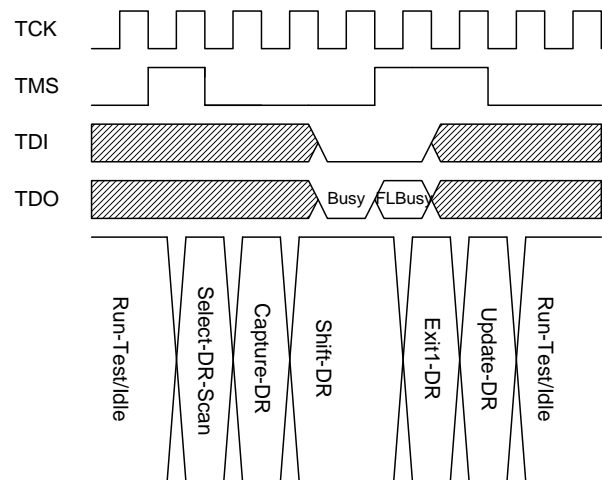

Figure 14. DR Scan Timing for Polling FLBusy
6. Poll **FLBusy** until it goes low, indicating that the read has completed. This is an Indirect Read of 1-bit. The DR Scan for polling **FLBusy** is shown in Figure 14.